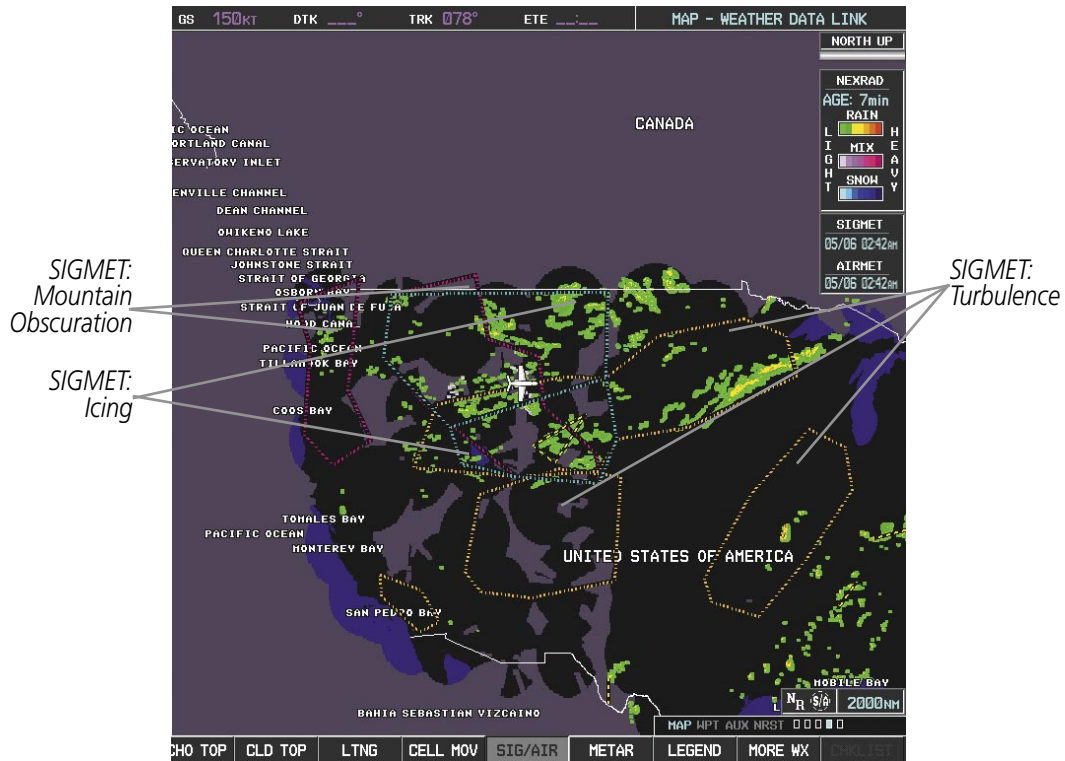

Figure 6-22 SIGMET/AIRMET Data
- 4) Press the **ENT** key. Figure 6-22 shows a sample of SIGMET text.